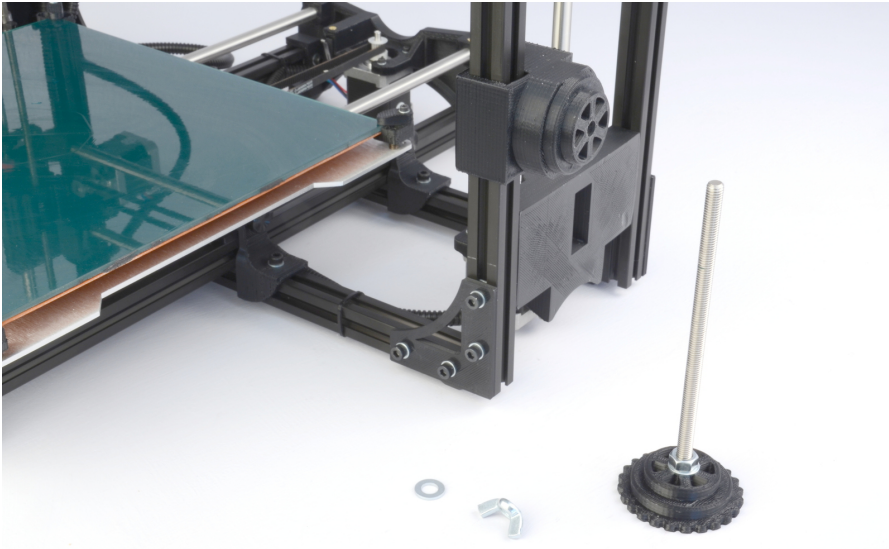

Figure 2.1: Filament spool mount parts
1. Locate the filament reel spindle and unthread and remove the wingnut and washer (fig. 2.1, page 34). Set the filament reel with the filament feeding counter clockwise. Insert the reel spindle into the plastic filament reel.